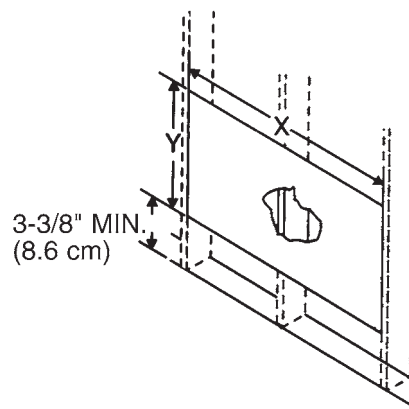

FIGURE 19 — WALL INSTALLATION LOCATION
5. Cut or knock out a hole on each side of the center stud. See Fig. 19.
6. Measure between the inside edges of every other stud as shown in Fig. 19.